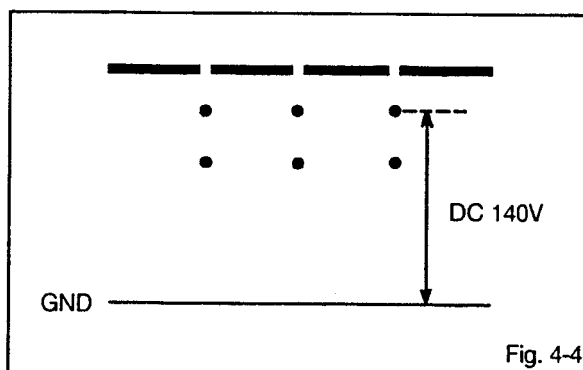

Fig. 4-4
5. Adjust the screen volume until the voltage is 140V DC. (Refer to Fig. 4-4)